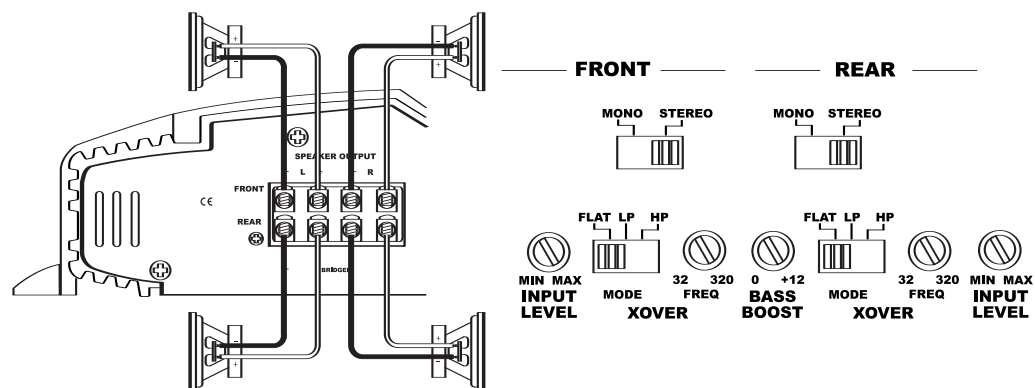

Figure 7. 7541a amplifier in 4-channel (stereo) operation to drive front and rear full-range speakers.
The 7541a can be set up for stereo 4-channel, 3-channel or bridged 2-channel operation, as shown in Figures 7 through 9.
**NOTE:** For simplicity, Figures 7 through 9 do not show power, remote and input connections.